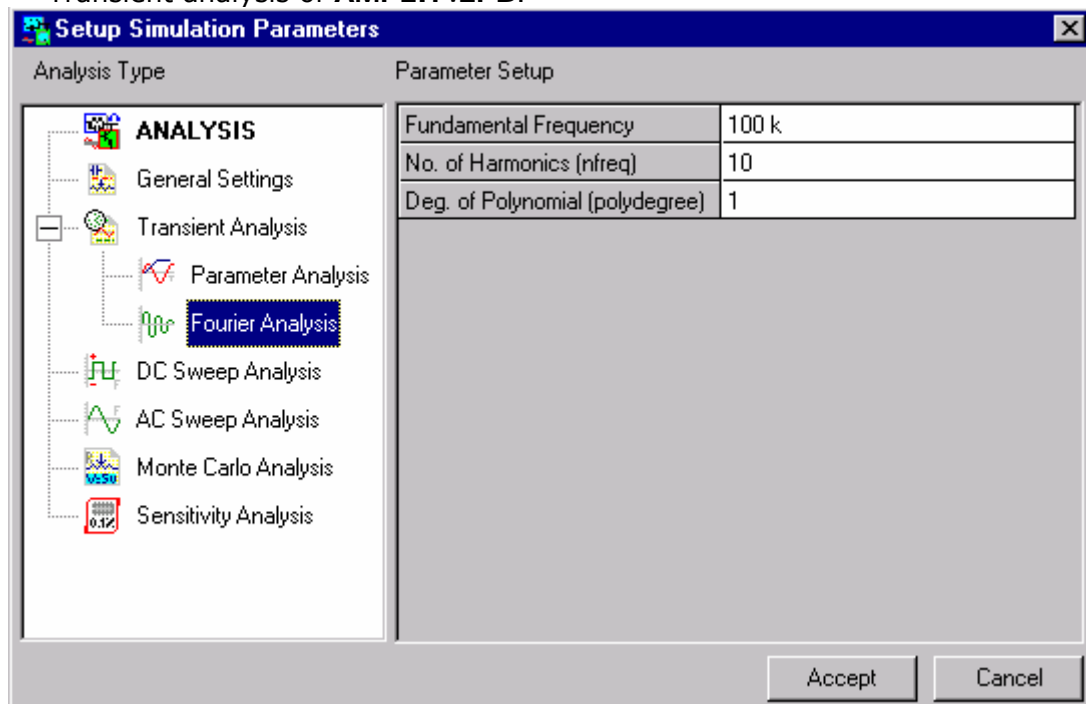

Fig. 6.13
3. The parameters to be set are the fundamental frequency of the waveform whose distortion is being computed. Set it as 100KHz. No. of harmonics as 10 and the degree of polynomial to be 1 (Refer Fig. 6.13).